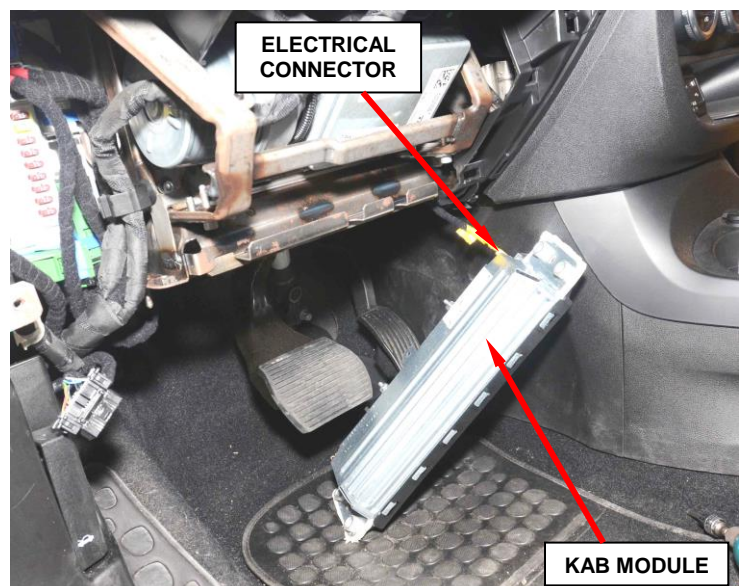

**Figure 5 – KAB Module Mounting Screws**
6. From below the instrument panel, remove the four screws that secure the Knee AirBag (KAB) module to the mounting bracket on the instrument panel support structure (Figure 5).
14. Install the data link connector to the close-out panel (Figure 5).